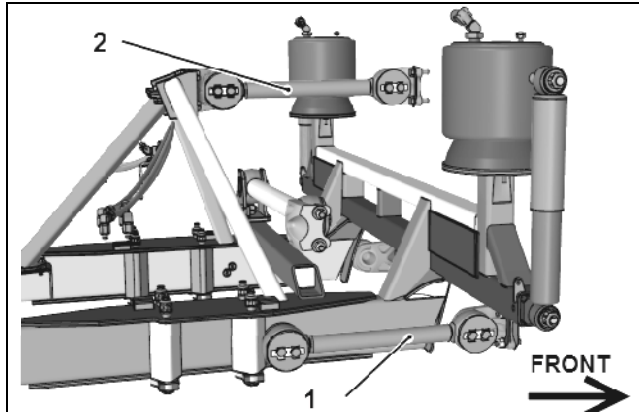

FIGURE 1: RADIUS RODS IDENTIFICATION – DRIVE AXLE SUBFRAME, CURBSIDE (DRIVE AXLE NOT SHOWN)
4. Identify the radius rods needing replacement of the bushings with figures 1 & 2.